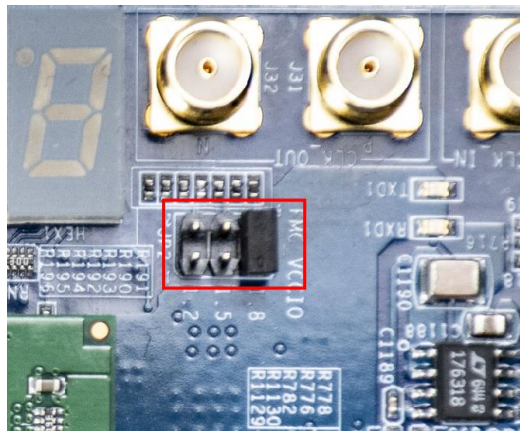

Figure 4-13 Make sure FMC_VCCIO(JP2) is set to 1.8V
3. Set the VCCIO of the FMC connector to 1.8V by shorting J2.5 and J2.6 as shown in the **Figure 4-13**.